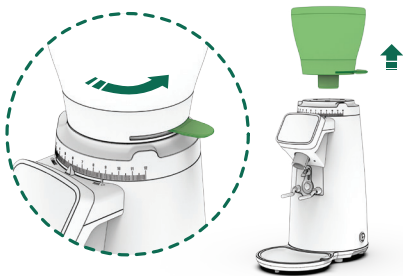

Fig. 2
**12.3.2** Check that the shutter is in the closed position before removing the hopper from the grind regulator (7). (Fig. 2).